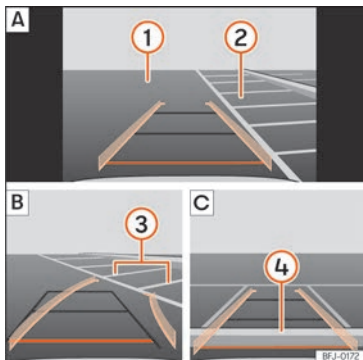

Fig. 300 Display on the Infotainment system screen.: parking with reverse assist.
Key to the **Fig. 300**:
- Place the vehicle in front of the parking space >>> **Fig. 300** **two** **A**.